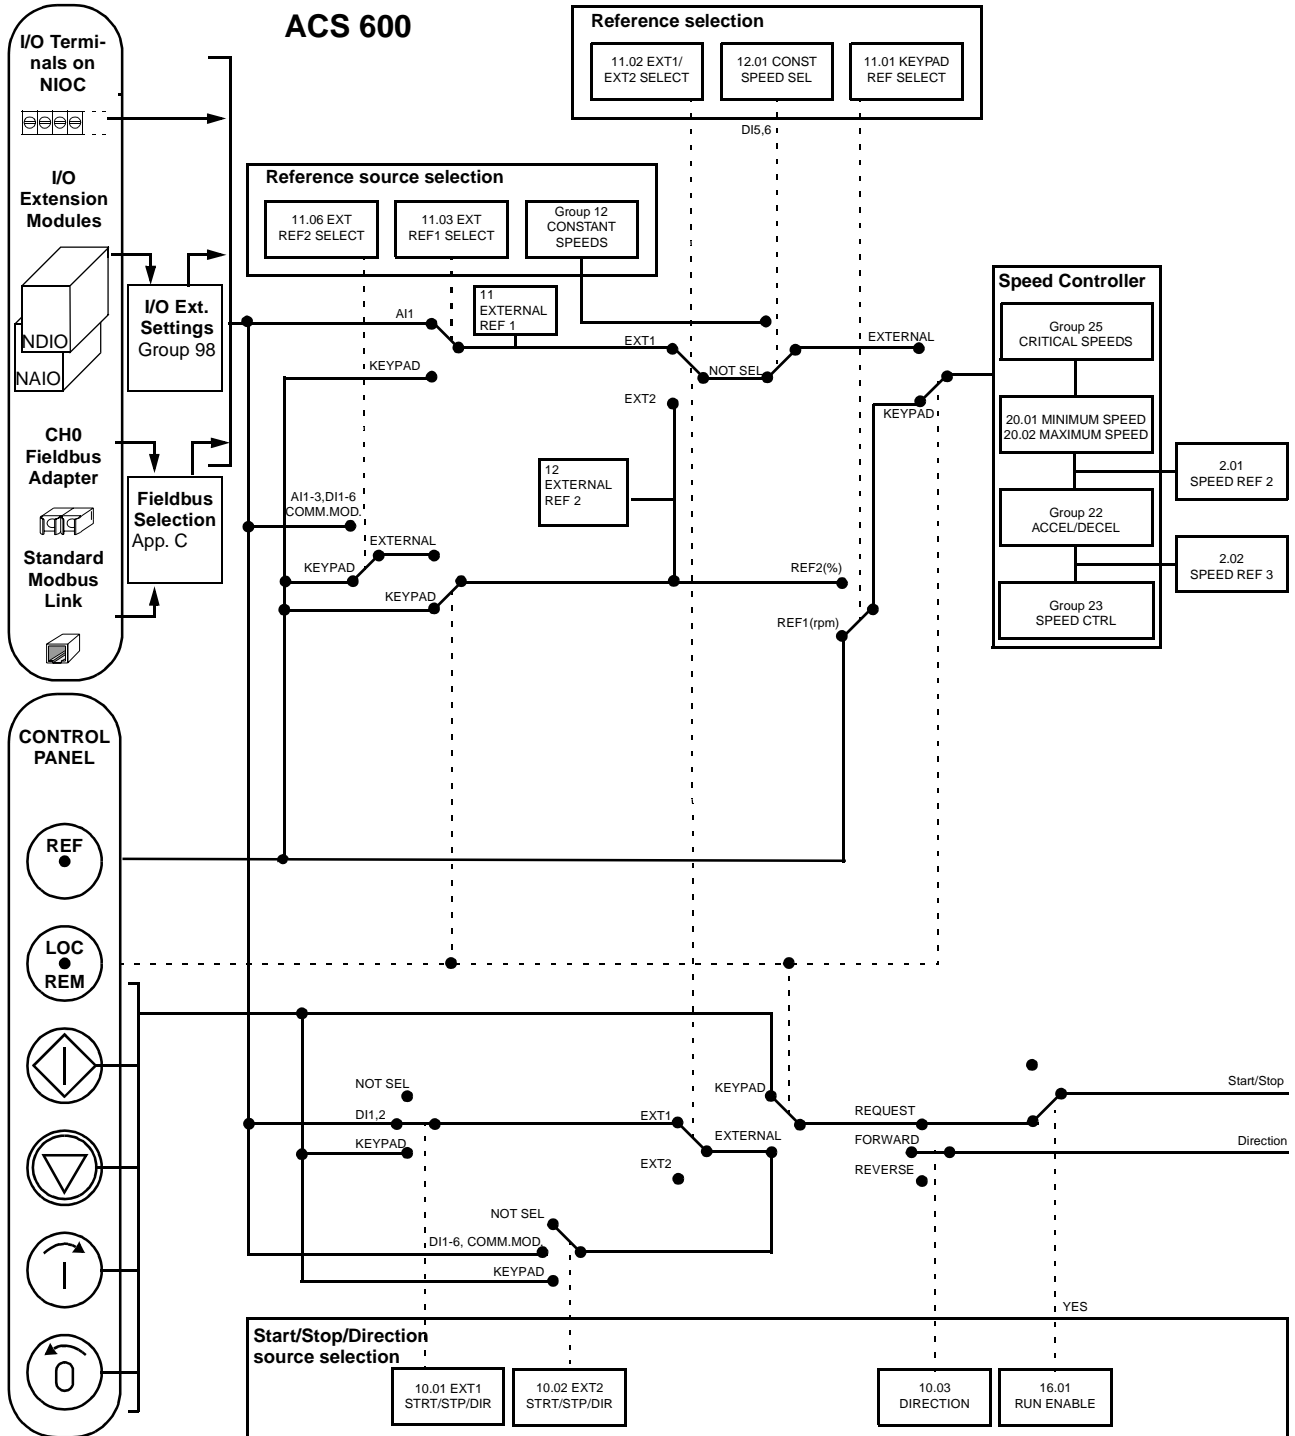

Figure 5-3 Control Signal connections for the Factory Macro.
**Control Signal Connections** Control signals i.e. Reference, Start, Stop and Direction command connections are established as in Figure 5-3 when you select the Factory Macro.